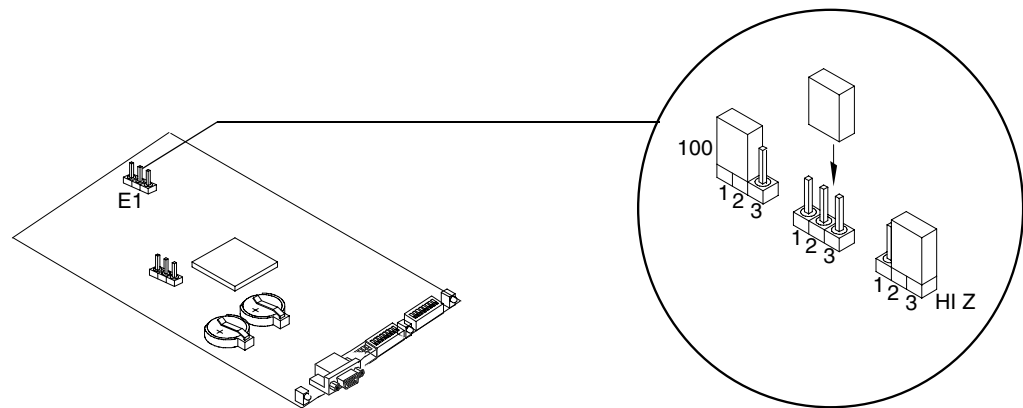

FIG. 2 Communication jumpers
5. Remove the jumper on pin trio E1 from pins 2-3 and place it on pins 1-2 (FIG. 2).